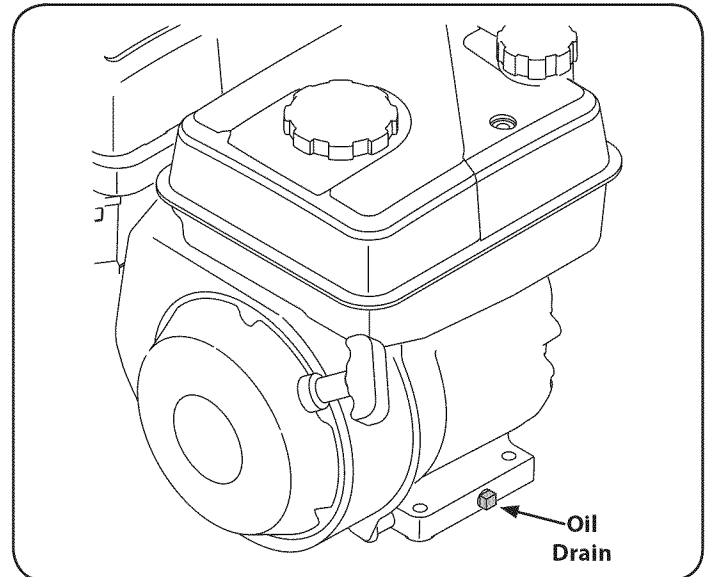

Figure 23
3. Remove oil drain end cap located at the base of the engine, and drain oil into an appropriate receptacle. See Figure 23.